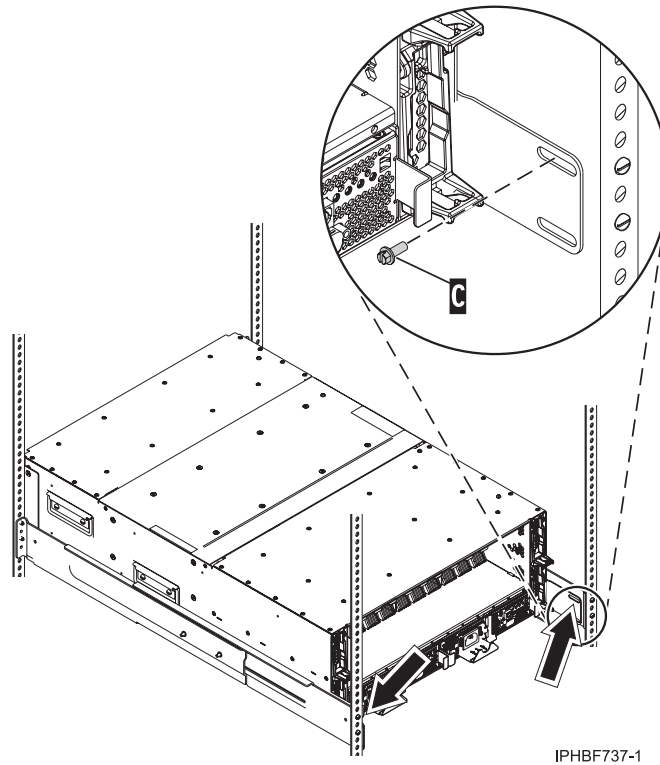

Figure 94. Securing the expansion unit to the back of the rack
4. Determine whether the securing plates are preinstalled on the back of the expansion unit. If not, attach the plates to the back left and back right of the expansion unit. The securing plates are illustrated in Figure 94 on page 86.